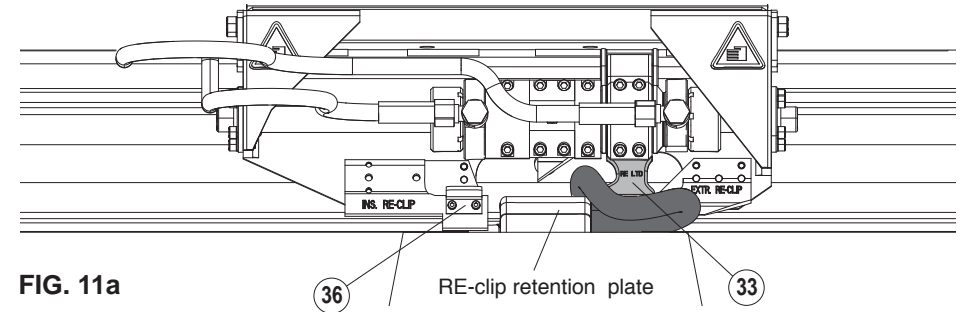

FIG. 11a
### 4.5.1) Simultaneous insertion of 2 rail clips (Ref. to Figs. 11a, 11b, 11c)
- With rear wheel locking knob (27) released, push the machine to the rail clips on which operations are to be performed (see § 4.2).
- Make sure the teeth (34) of the clamps are moved fully back by pulling the control lever to the left "EXTRACT".
- Completely lower the machine, **positioning the insertion contrast, marked by the yellow locator plates (36) near the rail clip retention plates** (see Fig. 11a).